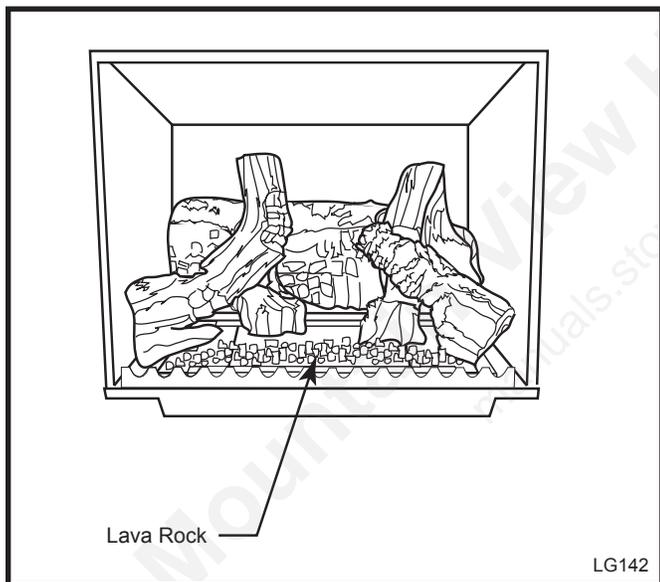

Fig. 20 Completed log installation.
5. Loosely sprinkle the lava rocks directly on top of the burner in front of and between the decorative grate and the right and left logs. Use the lava rock to cover brackets on the burner. (Fig. 20)